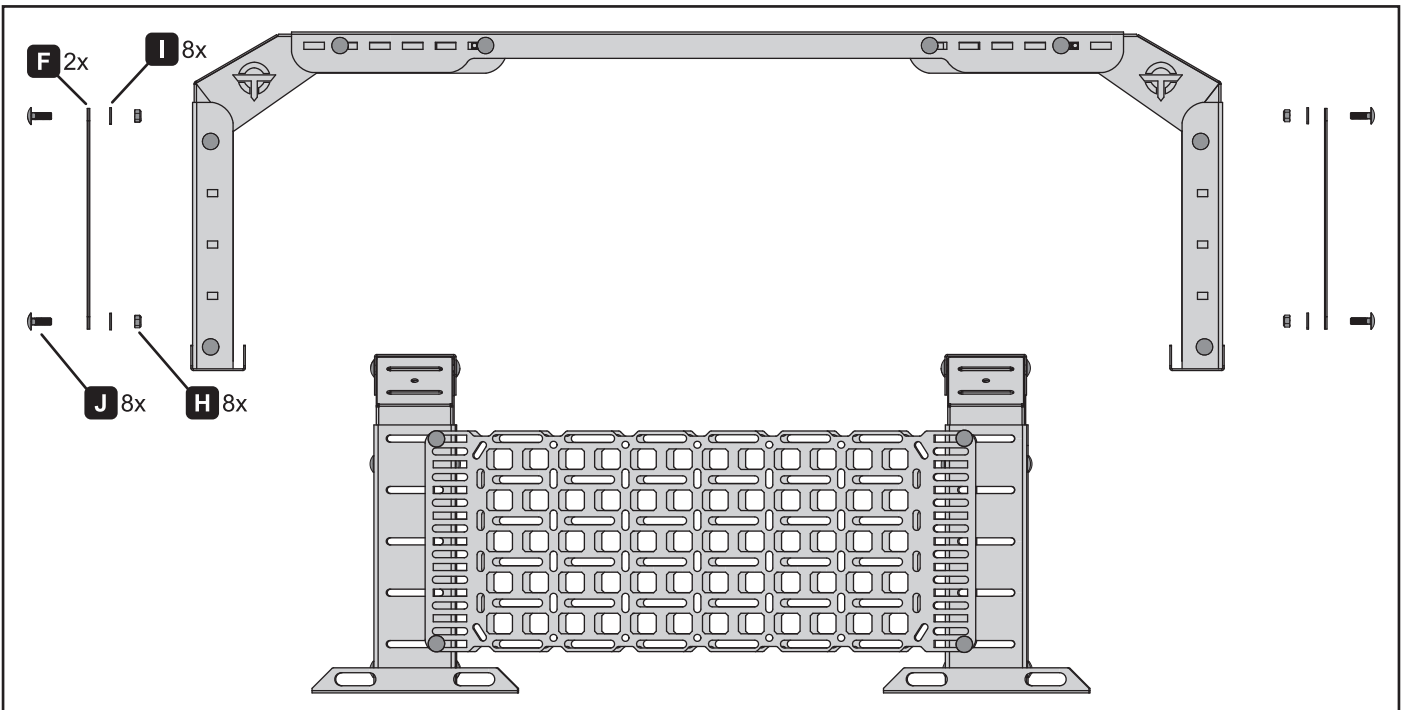

Figure 6. Molle panel installation
6. Install the molle panels using 25mm carriage bolts (J), washers (I) and lock nuts (H). Torque the nuts to 18 ft/lb (figure 6). Repeat this process on the opposite side.